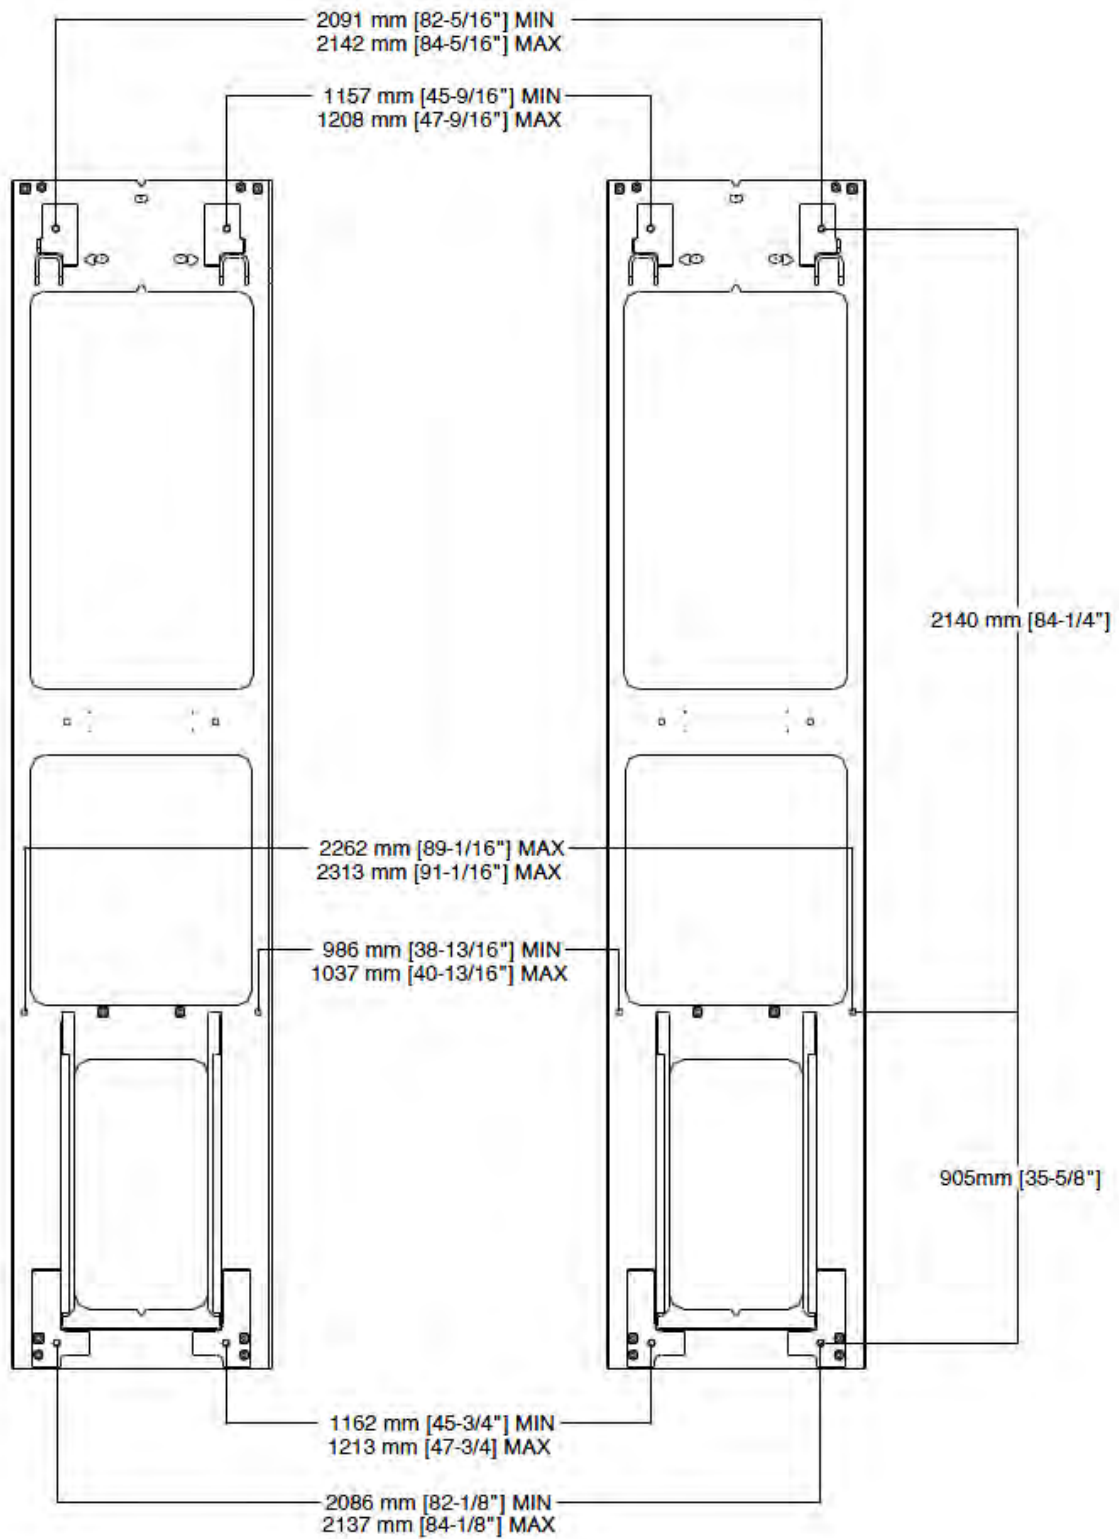

Figure 5 – Anchor Locations
2. Unravel all hoses, air lines, and sensor cables from each runway and connect the hydraulic lines as shown in Figure 5. Save the caps from the hydraulic lines for capping other fittings mentioned in the next step.